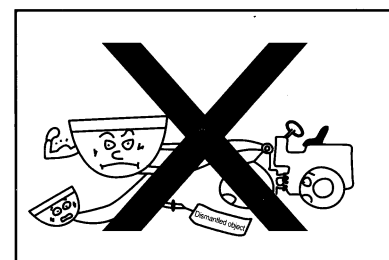

Figure 2-8
- Don't reconstruct the machine on the site. Never reconstruct the loader on site which may affect the functions, safety and strength of the loader or its bucket. (Figure 2-8)